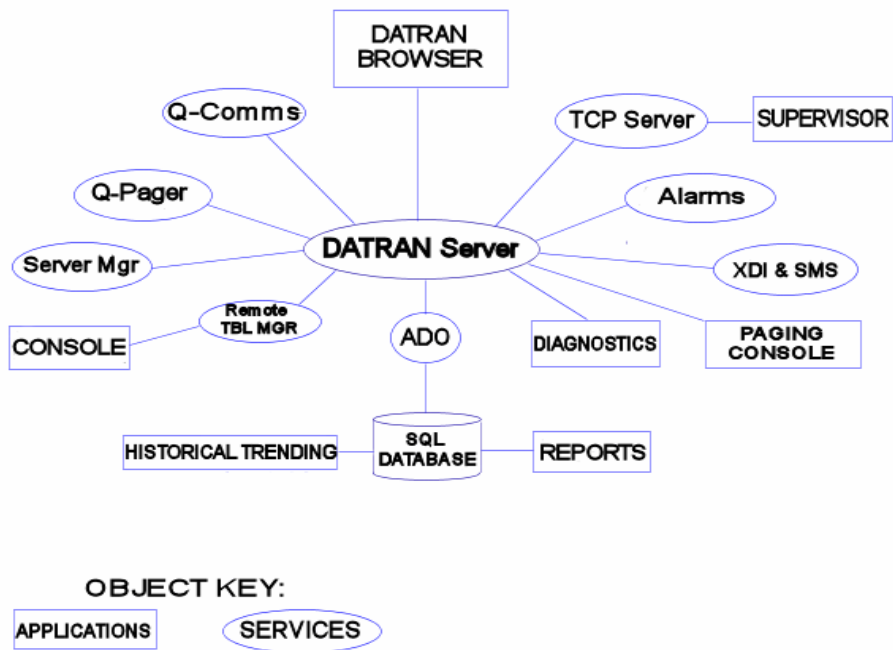

Figure 3: Relationship between DATRAN Services & Applications.
Note: Figure 3 above shows both legacy and new Applications Services. E.g. DATRAN Supervisor and Console have both been shown, even though Console has been superseded by Supervisor.
- ❑ DATRANVue (Not shown in Fig. 3)